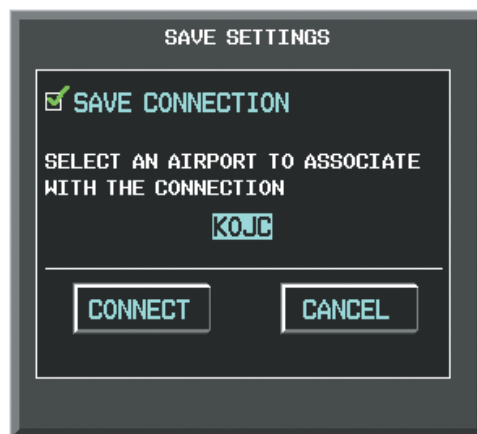

Figure 8-110 Save Connection
- a) Press the **ENT** Key. A checkmark is placed in the checkbox and the cursor moves to the airport field as shown in Figure 8-110.